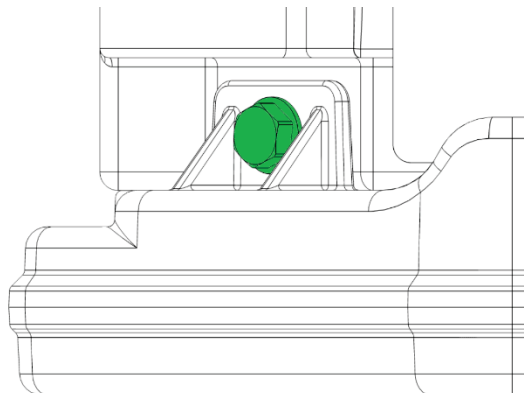

Figure 5
- 5.5.3. Use the Impact Driver with the Adapter and 5/16” Socket to install the two 10-24, ½” Long Screws through the top mounting tabs of the Boomerang into the bearing adapter. Shown in *Figure 5*.